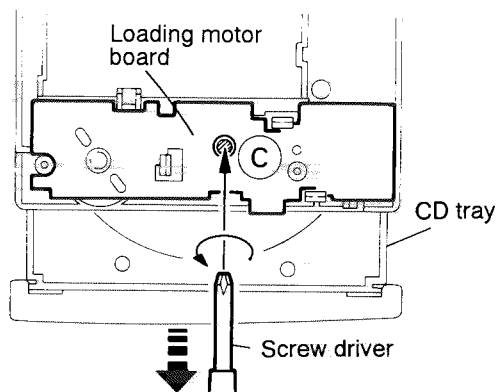

Fig. 5-17
4. After turning over the loading base assembly, insert a plus screw driver into the hole on the loading motor board and turn the driver counterclockwise. Then the CD mechanism will be raised (See Fig. 5-17).